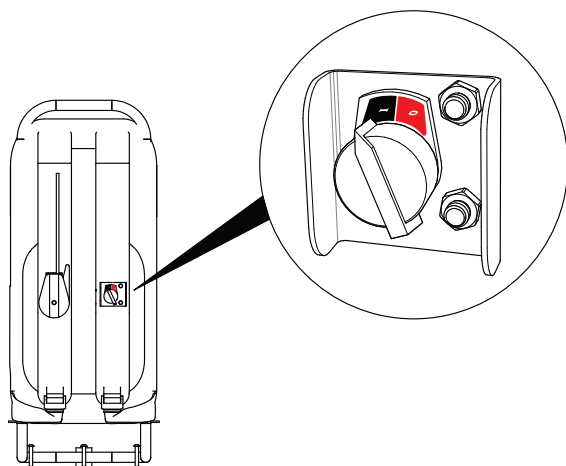

Figure 12. Engine ON/OFF Switch (ON)
5. Place the ON/OFF switch located on the **left** strap in the **ON** position (Figure 12).